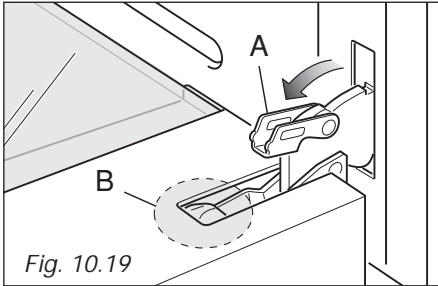
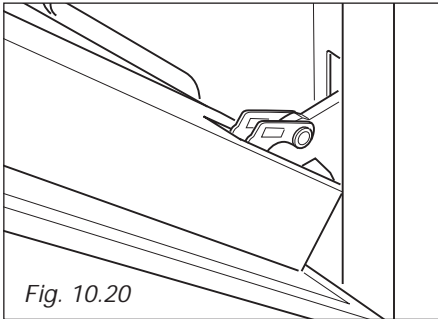

Fig. 10.19
Fig. 10.20
- Open the lever **A** completely on the left and right hinges (fig. 10.19).
- Gently close the door (fig. 10.20) until left and right hinge levers **A** are hooked to part **B** of the door (fig. 10.19).
- Make sure the door is locked open (see Fig. 10.20).